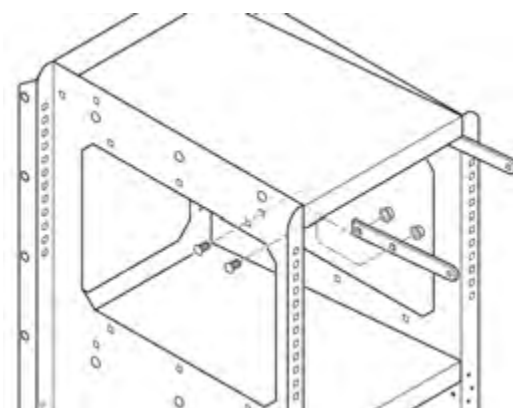

Figure 4-4
4. Using four M8 x 20 Round-Head Square-Neck Carriage Bolts (item #2) with M8 Flanged Nylock Hex Nuts (item #4), attach Handle Mounts (item #25) to Side Panels, just beneath the top Angled Shelf, as shown in Figure 4-4. **Fully tighten nuts.**